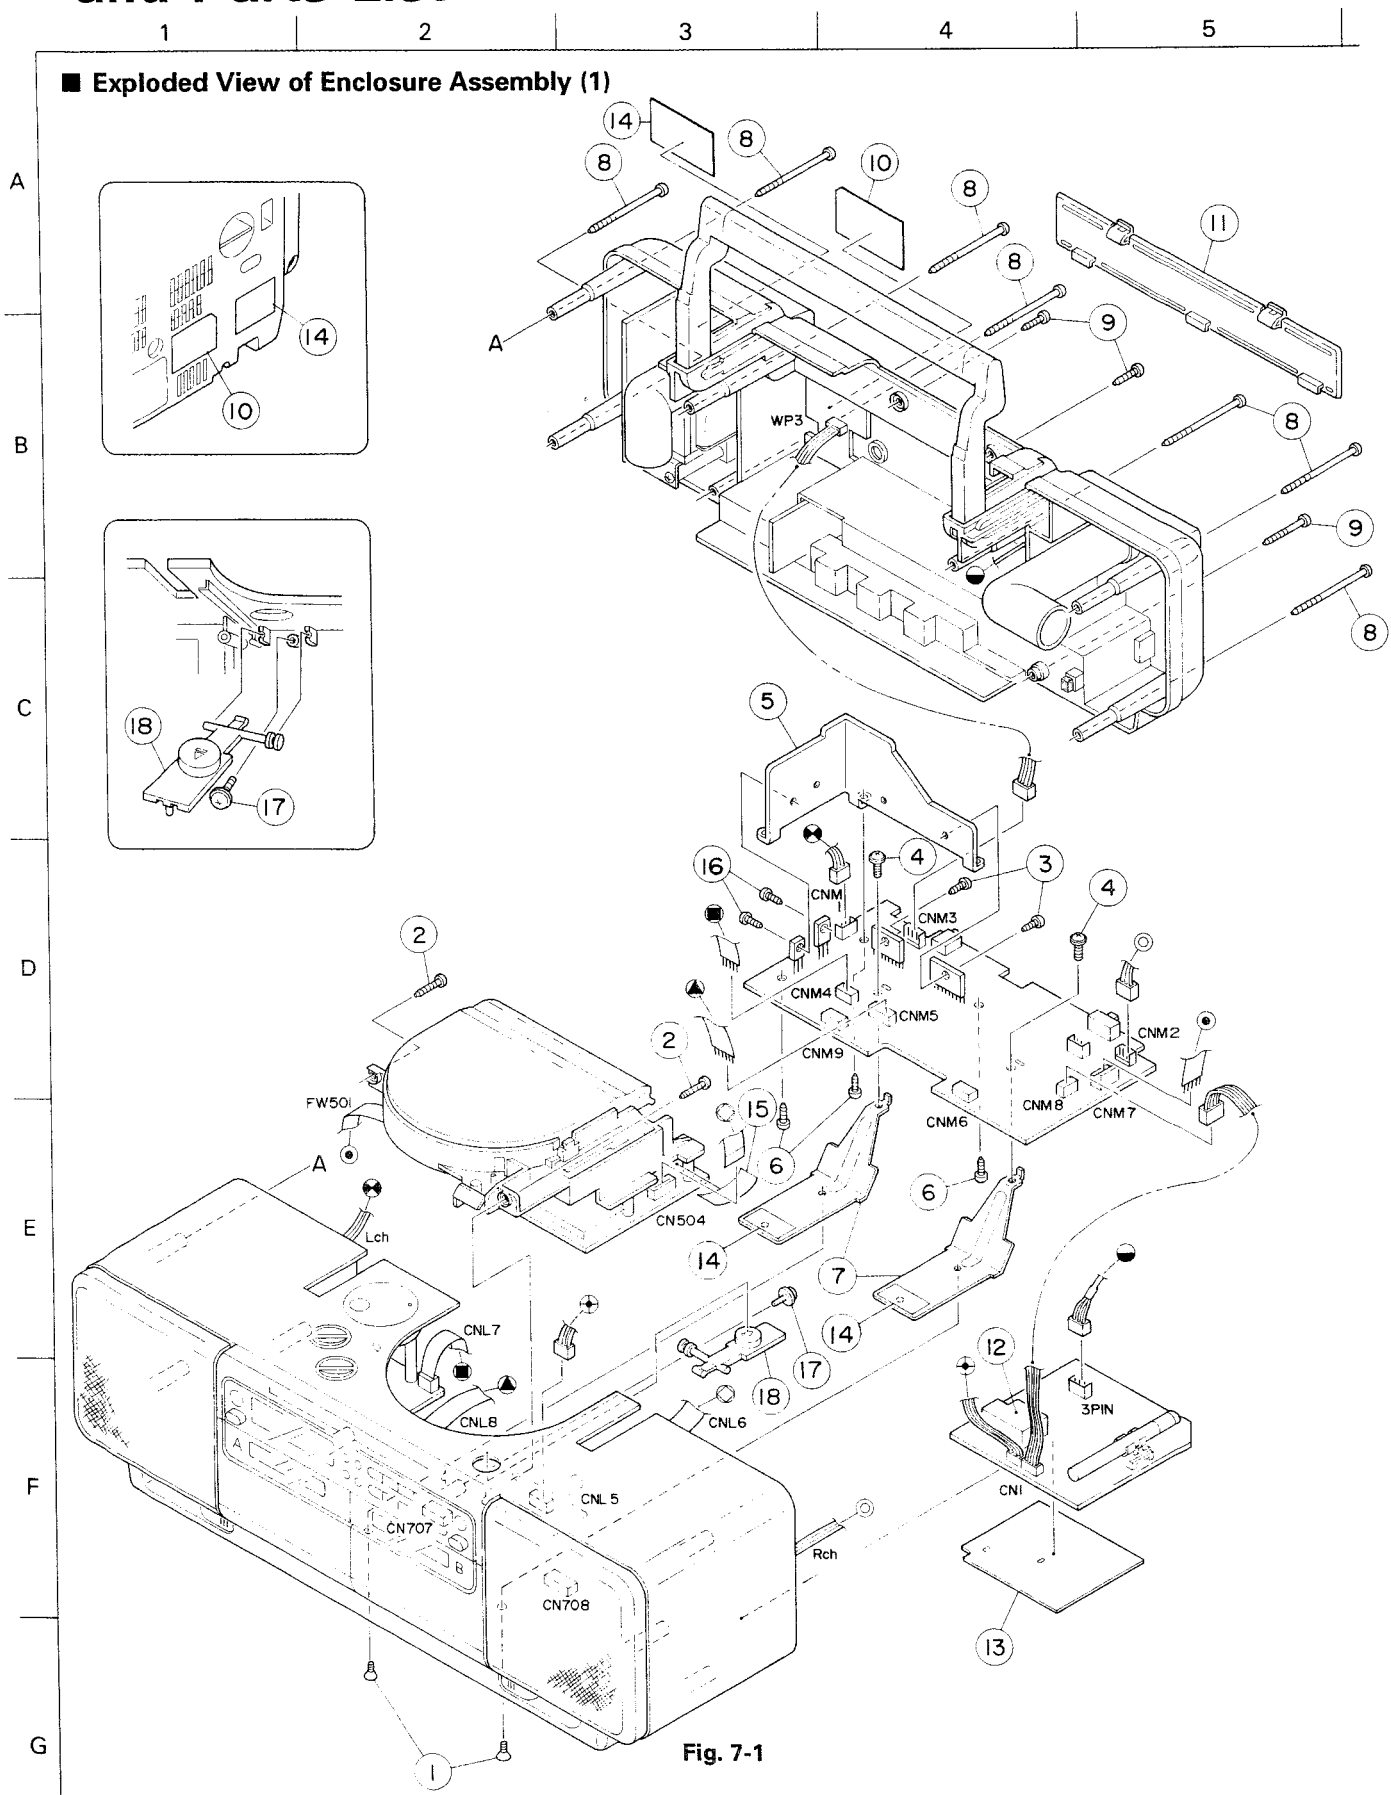
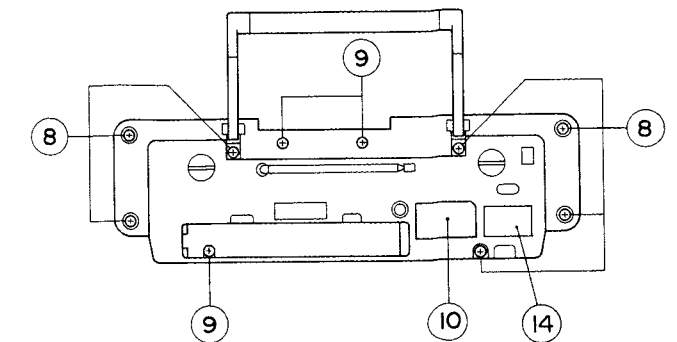

Fig. 7-1
Fig. 7-2
■ Rear cover assembly (Fig. 7-1, Fig. 7-2)
1. Remove seven screws ⑧ retaining the rear cover ass'y.
2. Remove three screws ⑨ retaining the rear cover ass'y.
■ CD player assembly (Fig. 7-1, Fig. 7-2)
1. Remove two screws ② retaining the CD player ass'y.
■ Tuner board (Fig. 7-1)
■ Power amp. board (Fig. 7-1, Fig. 7-4)
2. Remove two screws ① retaining the power amp. board ass'y from the front cover ass'y.